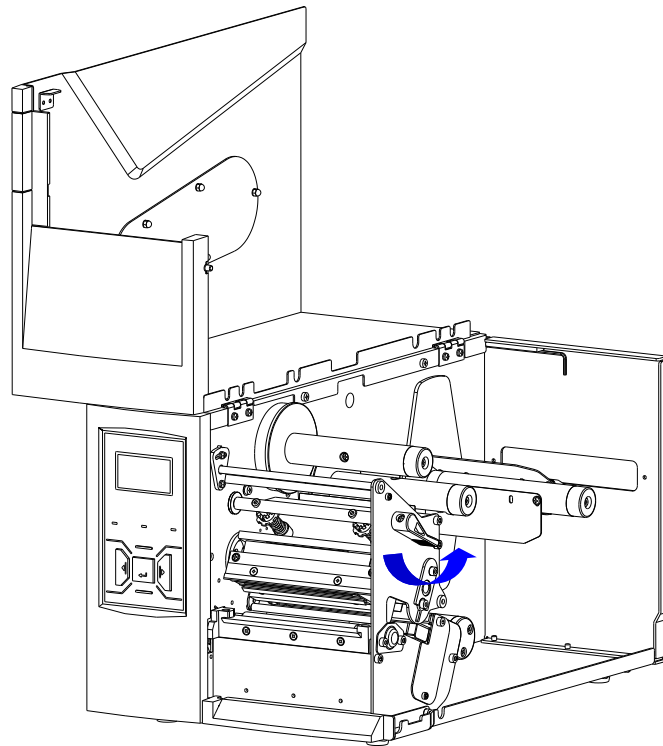
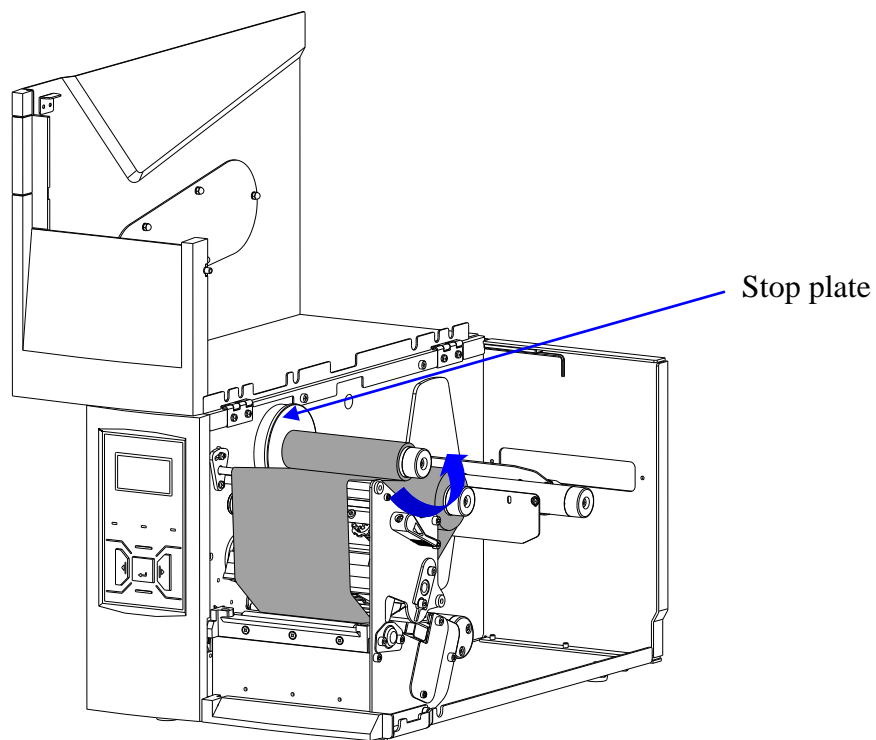

Figure 2-5 Open the Printhead
Figure 2-10 Ribbon Loaded
To load ribbon, refer to Figure 2-5 through Figure 2-10 (only Media Core Supporting Blade mechanism is illustrated), and follow the steps below:
2. Turn the Lever counter clockwise to open the Printhead. See Figure 2-5.
7. Slide the Ribbon Take-up Roll on the Ribbon Take-up Spindle and push it firmly against the Stop Plate. Turn the Take-up Spindle until the ribbon is tightly wound. See Figure 2-10.